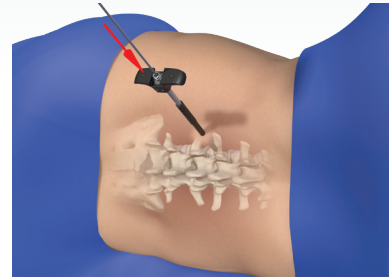

Figure 11
- With the inner stylus of the targeting needle removed, place the guidewire within the needle cannula (Figure 11).